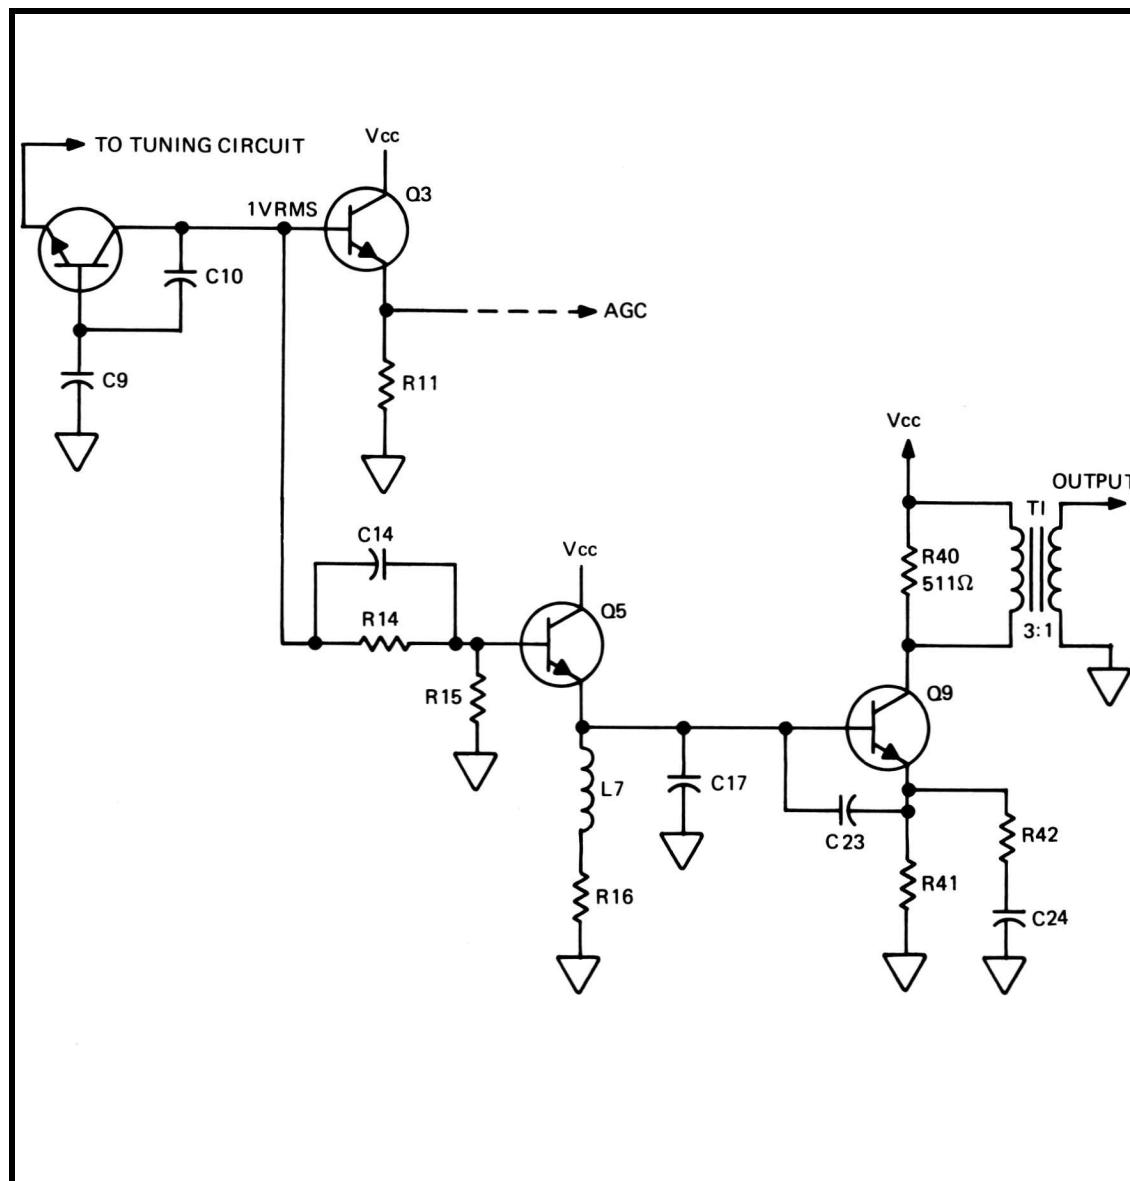

Figure 8-8. Output Amplifiers
- 8-24. The signal for the output amplifiers is taken from the same point as the AGC (across C10). The voltage is buffered by Q5 which is an impedance matching stage. Resistors R14 and R15 set the dc bias level while C14 allows the ac to bypass R14. The signal is then applied to the output buffer stage of Q9. Resistor R40 provides the 50Ω source impedance when transformed by T1. Typical gain from Q9 base to collector is approximately 2. See Figure 8-8.